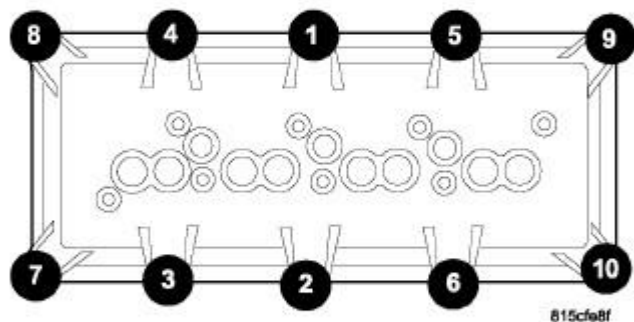

Fig. 94: 5.7L/6.1L COVER TORQUE SEQUENCE
4. Using the sequence shown in **Fig. 94**, remove the cylinder head cover. See **Engine/Cylinder Head/COVER(S), Cylinder Head - Removal**.